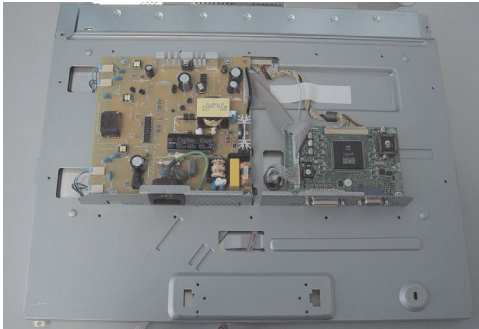

Fig.12
- Remove the matel frame board as shown in Fig.12